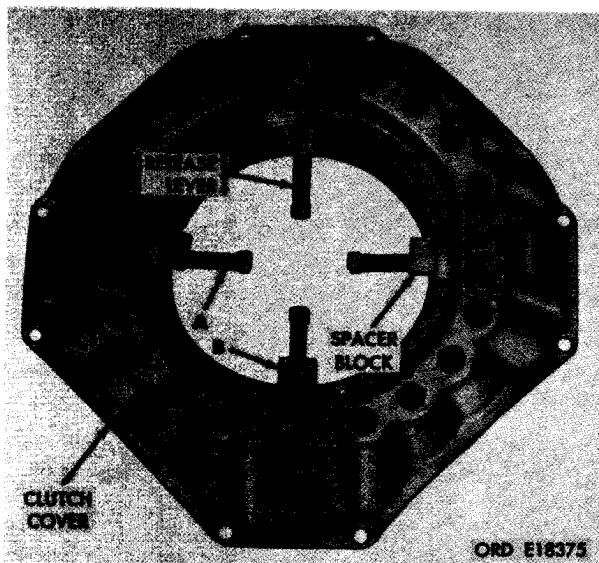

FIGURE 448. REMOVING OR INSTALLING SPACER BLOCKS BETWEEN RELEASE LEVERS AND CLUTCH COVER.
a. Remove Spacer Blocks. Figure 448. (A) Position clutch cover assembly on a flat surface as shown. Push down on four release levers. (B) Remove four clutch release lever spacer blocks.